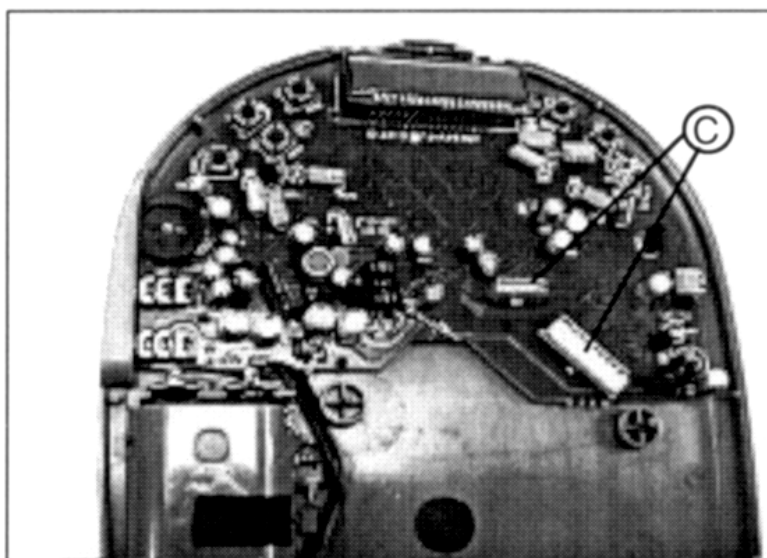

Fig. 3
- Disconnect the connector CN1 and CN2 **(C)** (Fig. 3)